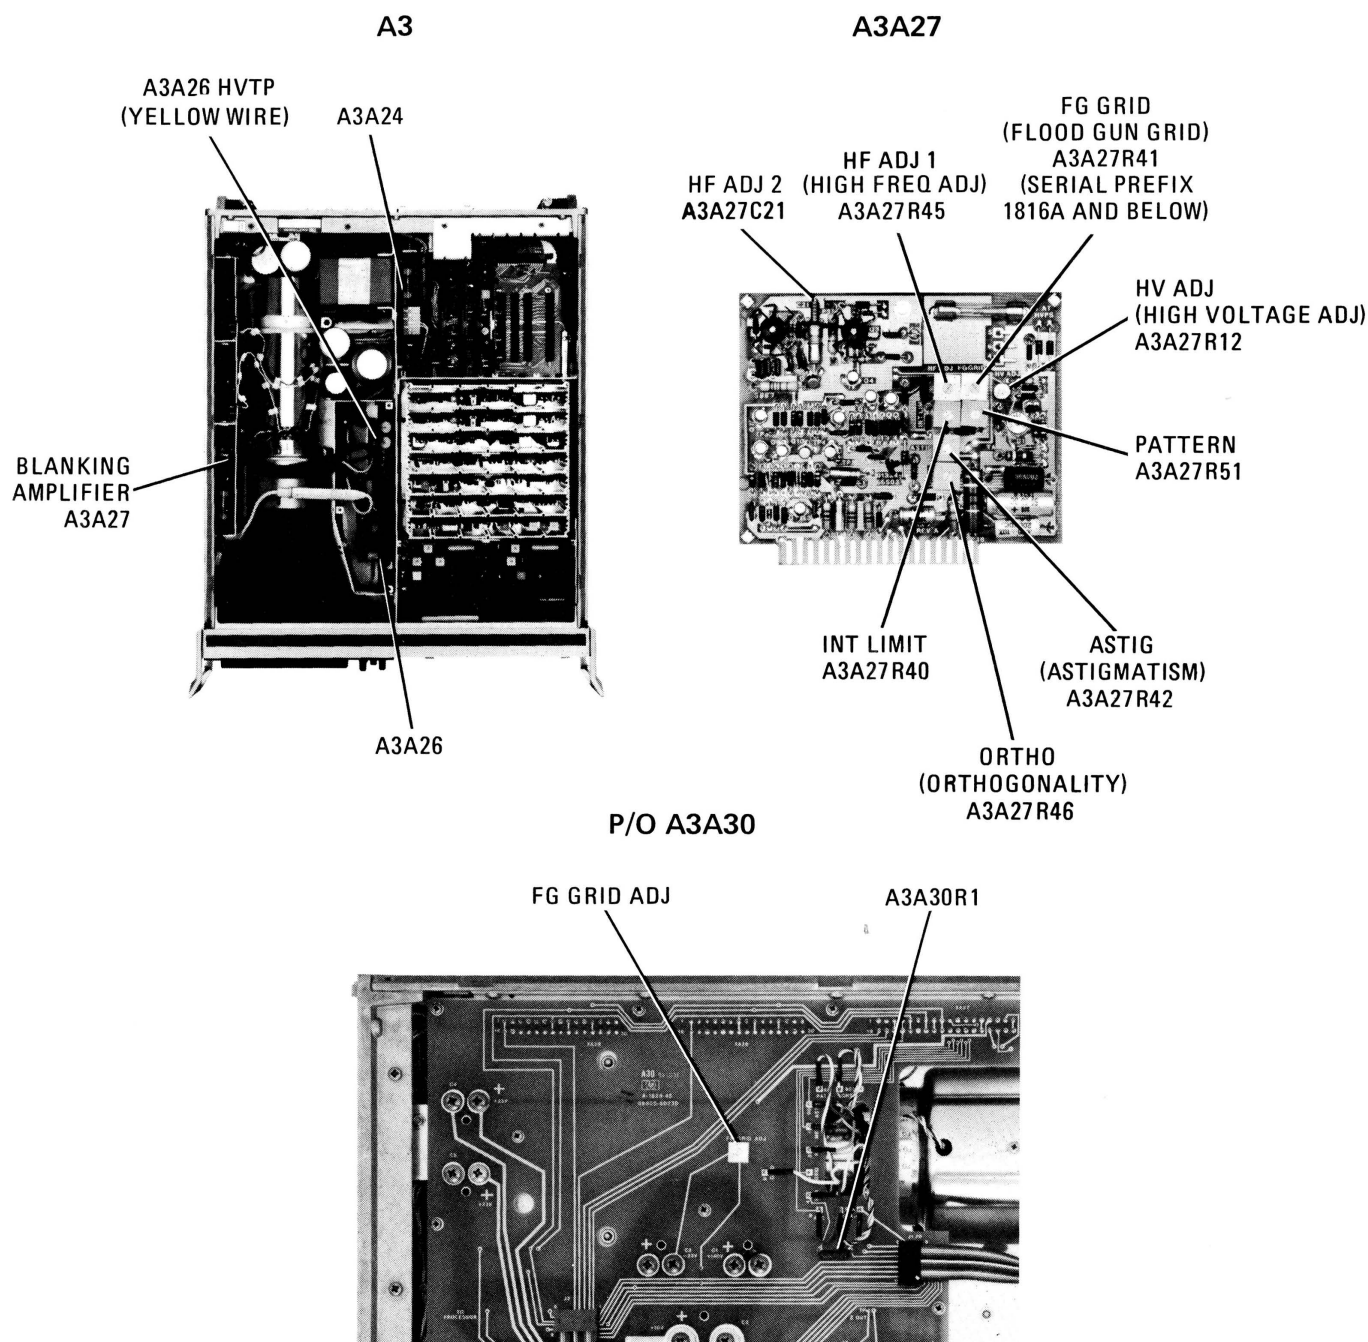

Figure A5-45. A3A27 Blanking Amplifier Adjustment Locations
- f. Using High Voltage probe, measure output of high voltage CRT cathode power supply on board assembly A3A26 at HVTP (yellow wire). See Figure A5-45.
- g. Adjust HV ADJ A3A27R12 (Figure A5-45) for a DVM reading of 3,950 volts.